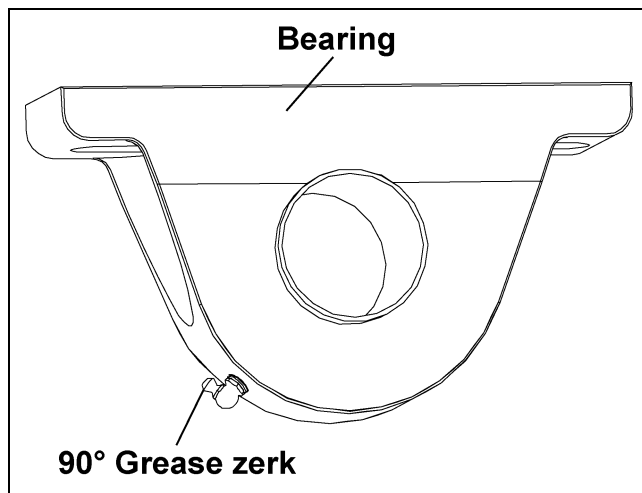

Figure 5Q
- B. Replace standard grease zerks with 90° grease zerks on both bearings. Make sure the 90° grease zerk is turned as shown in Figure 5Q, so the zerks are accessible from the center of the tractor drive stand.
- Attach Bottom Chain Guard Weldment to Tractor Drive Stand using 3/8" x 1-1/4" HHCS bolts, 3/8" split lock washers, and 3/8" hex nuts. (See Figure 5Q on Page 33.)